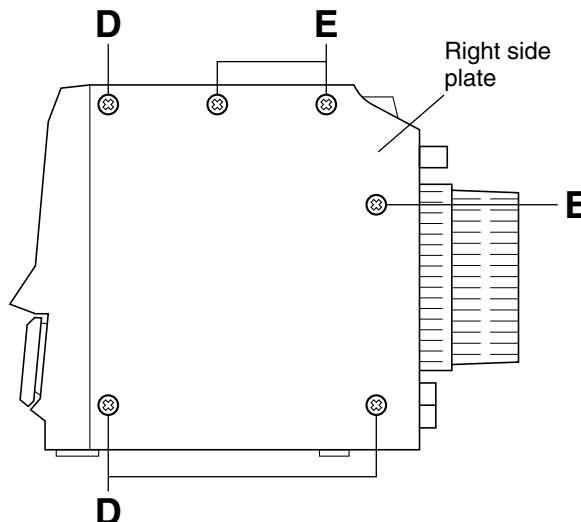

Fig.4
(See Figs. 4 and 5.)
1. From the right side of the main body, remove the three screws **D** and three screws **E** retaining the right side plate. (See Fig.4.)